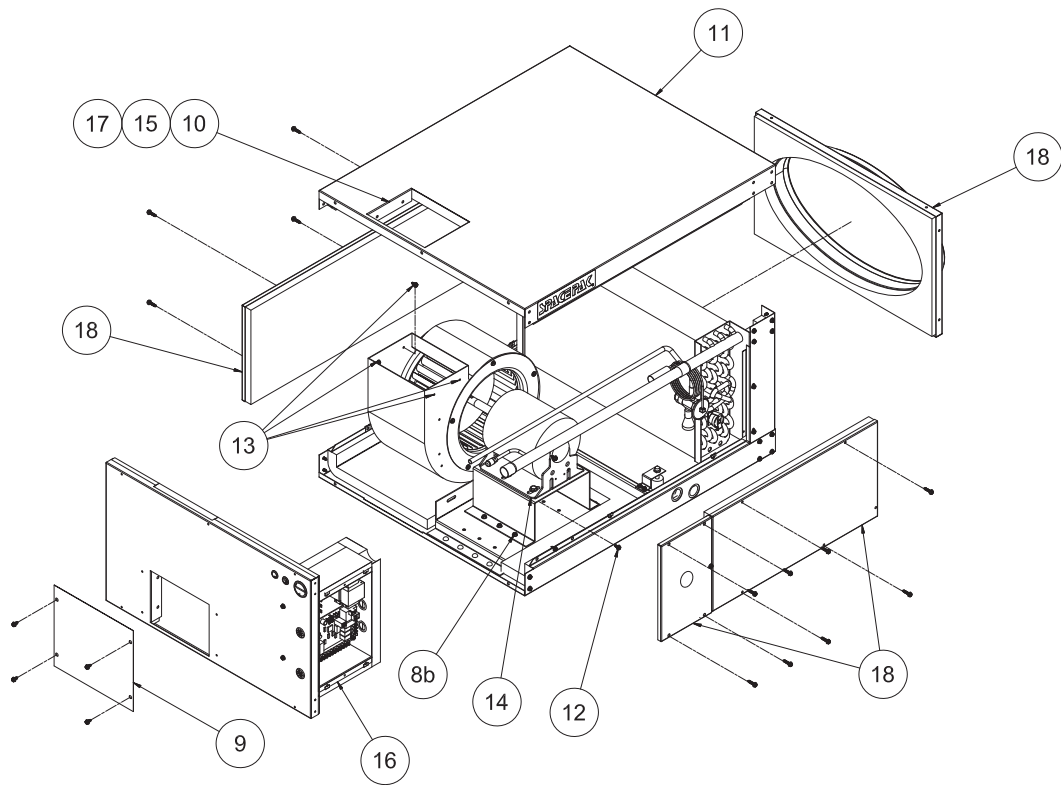

FIGURE 2.9
4. Remove (4) screws securing front panel flange to blower housing.
6. Remove (3) remaining screws from electrical control box. Set box aside.
7. Remove (2) screws attaching blower housing to motor support channel flange.
- 8a. Remove (6) screws attaching motor mounting base to motor support channel.
- Refer to Figure 2.9 for Steps 8b to 18.